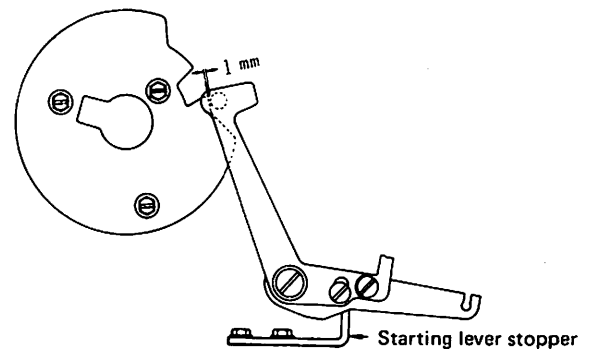

Fig. 40
D. If stop-motion ball ①, shown in the Structural Drawing of the Clutch Component (p. 26), accidentally comes away from the main shaft, the clutch surface can not be aligned properly. Therefore, prevent the ball from falling by applying grease to the main shaft beforehand.
A. If the starting lever stopper is not properly positioned, the machine may not start or may start to run at high speed immediately after the pedal is depressed. Adjust the starting lever stopper so that it is actuated when there is a 1 mm (3/16") clearance, between the stop-motion regulating cam and the stop-motion regulating cam roller (Fig. 40) when operating at low speed.
C. Check to see if the driving pulley pressing plate is correctly positioned according to standard adjustment (6).
A. If unusual sound is produced only at the time of low speed operation before or after starting or stopping, it means that the stop-motion ball has been scratched due to inadequate adjustment, as mentioned in standard adjustment (7).